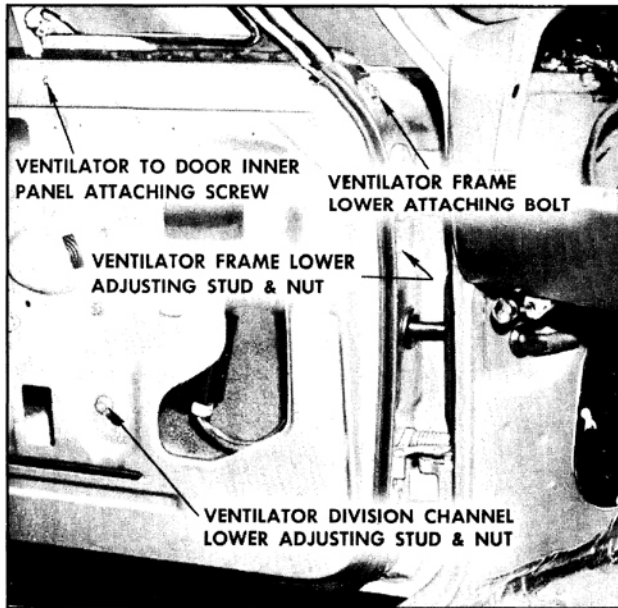

Fig. 16-337 Ventilator Attachment
5. On door hinge pillar, remove ventilator frame lower attaching bolt and ventilator frame lower adjusting stud nut. (Fig. 16-337)